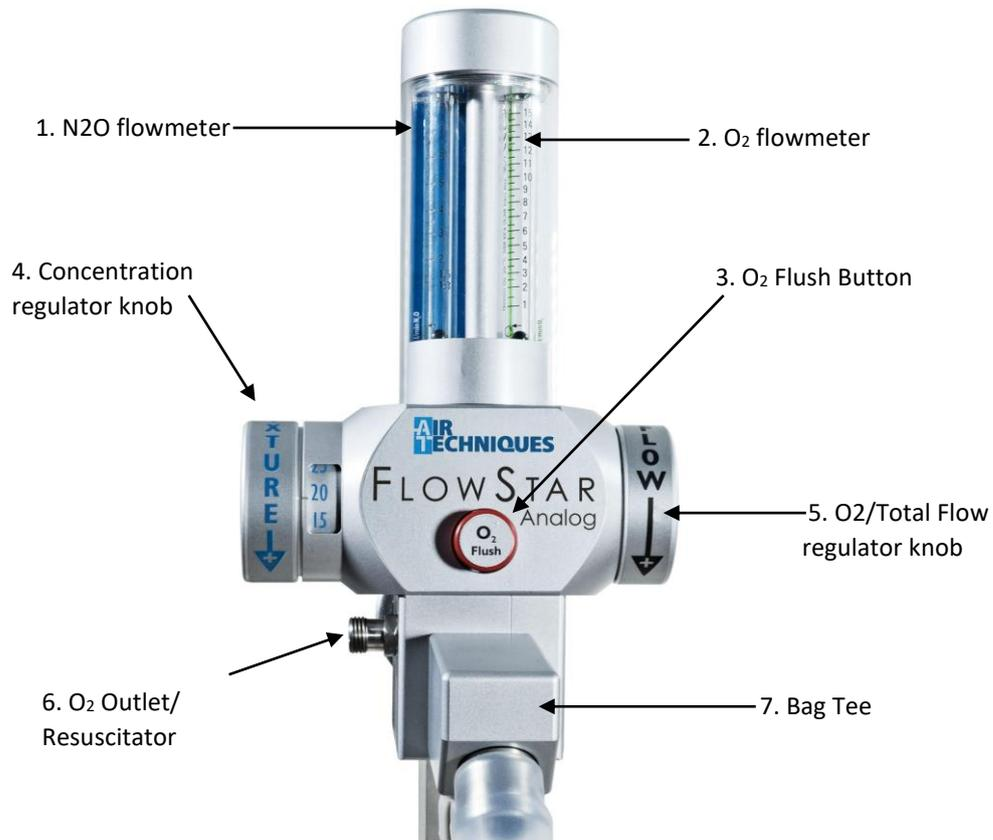
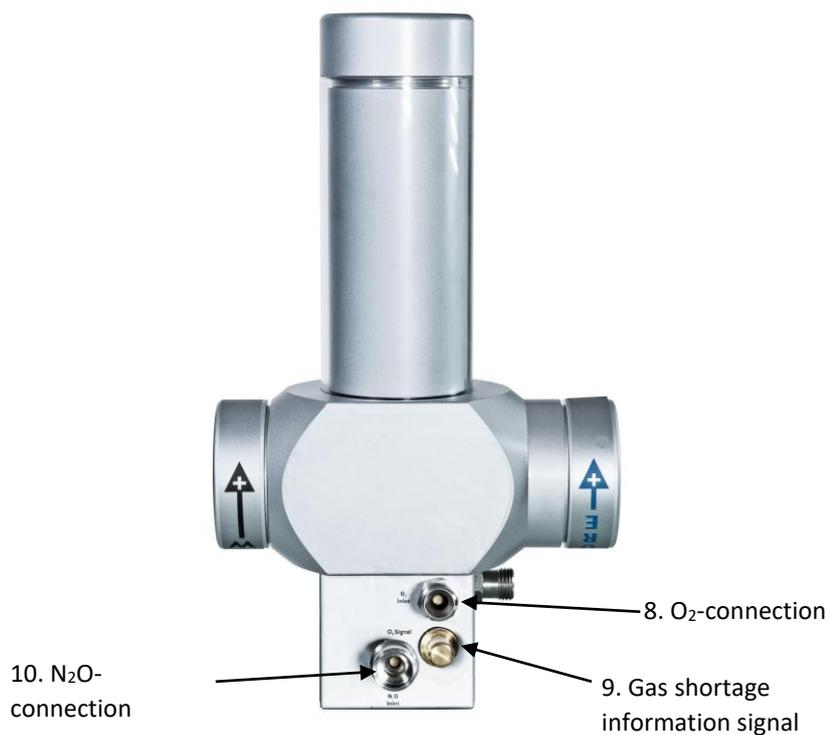

Figure 1: Components of the FlowStar Analog Mixer Flowmeter - Front
Figure 2: Components of the FlowStar Analog Mixer Flowmeter- Back
- Table 6: Description of the components of the Mixer Flowmeter from Figure 1 and Figure 2 11
Table 6: Description of the components of the Mixer Flowmeter from Figure 1 and Figure 2